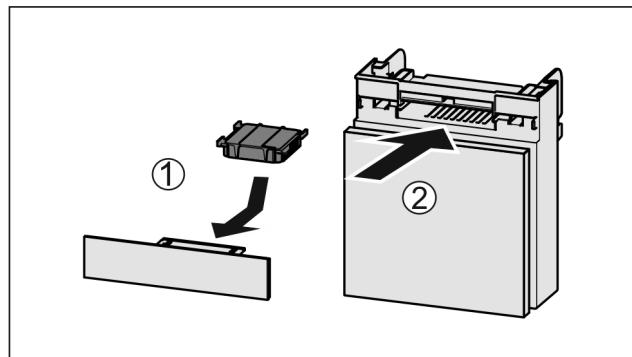

Fig. 145
- Insert the carbon filter as shown in the diagram Fig. 145 (1).
► Push the compartment in Fig. 145 (2).